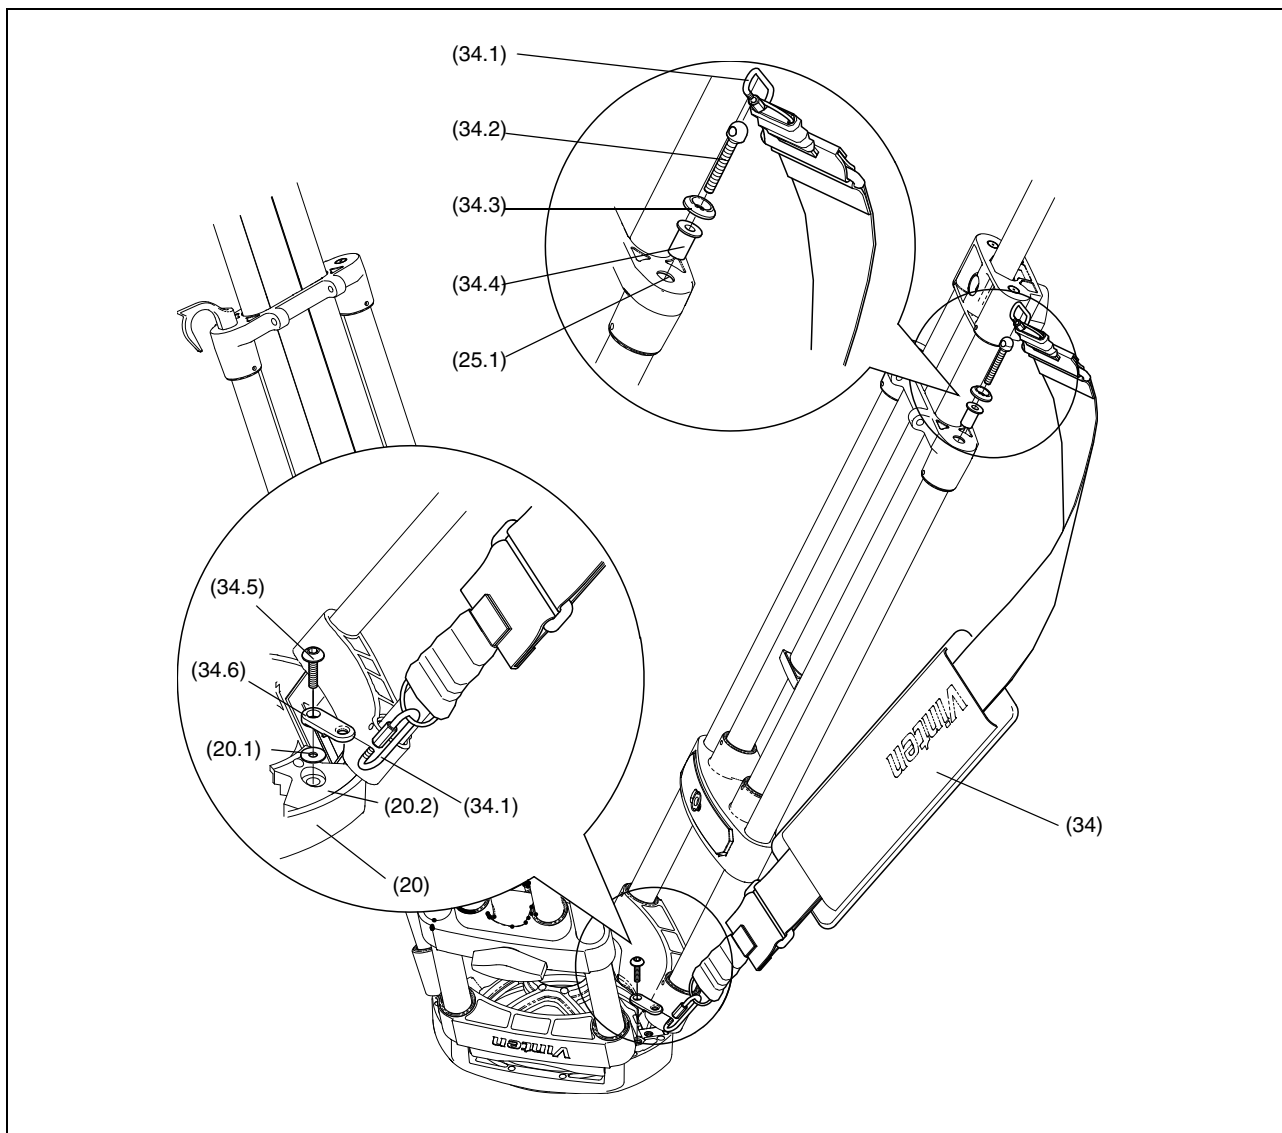

Fig 2.3 Carrying strap installation
29 A carrying strap (34) (Fig 2.3) (Part No. 3425-3P) is available as an optional accessory and is installed as follows: